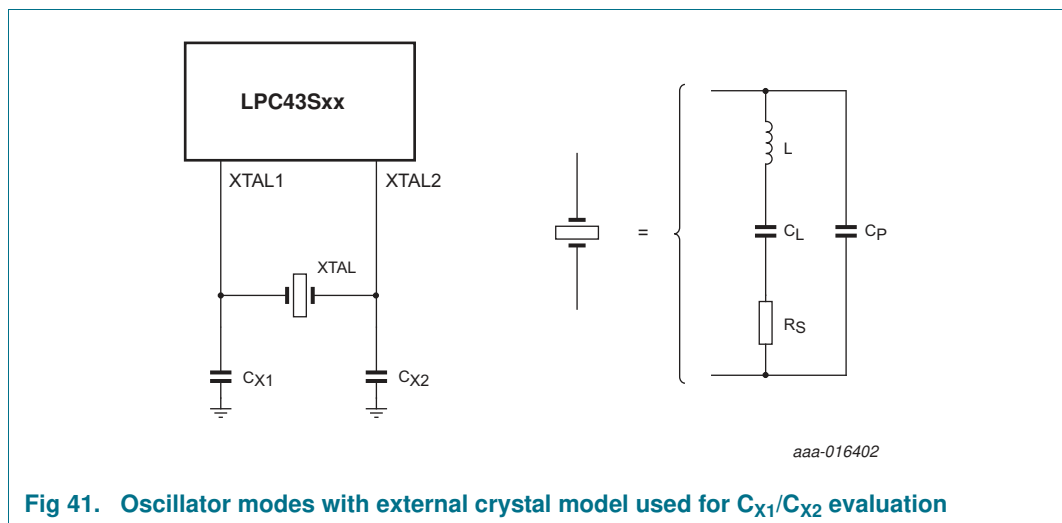

Fig 41. Oscillator modes with external crystal model used for C_{X1}/C_{X2} evaluation
- External components and models used in oscillation mode are shown in Figure 41, and in Table 43 and Table 44. Since the feedback resistance is integrated on chip, only a crystal and the capacitances C_{X1} and C_{X2} need to be connected externally in case of fundamental mode oscillation (the fundamental frequency is represented by L , C_L and R_s). Capacitance C_P in Figure 41 represents the parallel package capacitance and should not be larger than 7 pF. Parameters F_C , C_L , R_s and C_P are supplied by the crystal manufacturer.